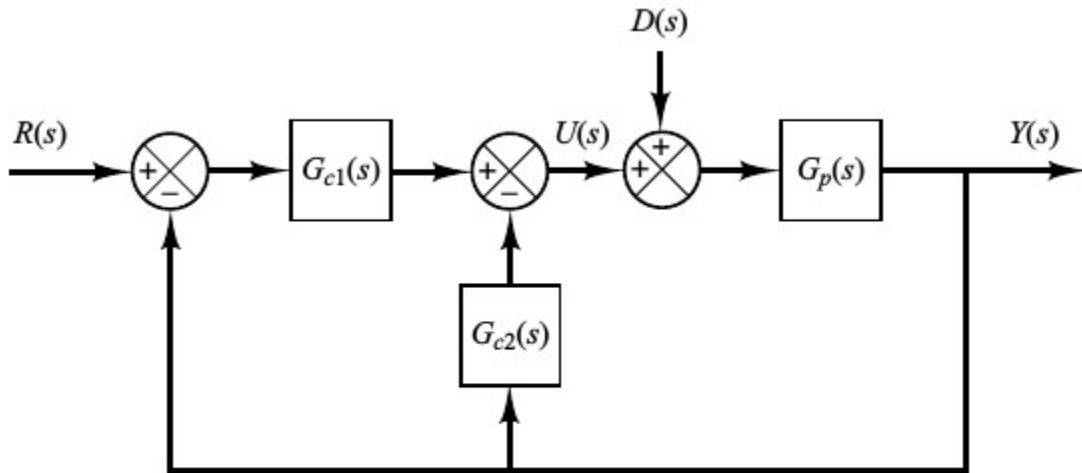

Figure 8-81
8) B-8-14. Consider the system shown in Figure 8-81. The plant $G_p(s)$ is given by